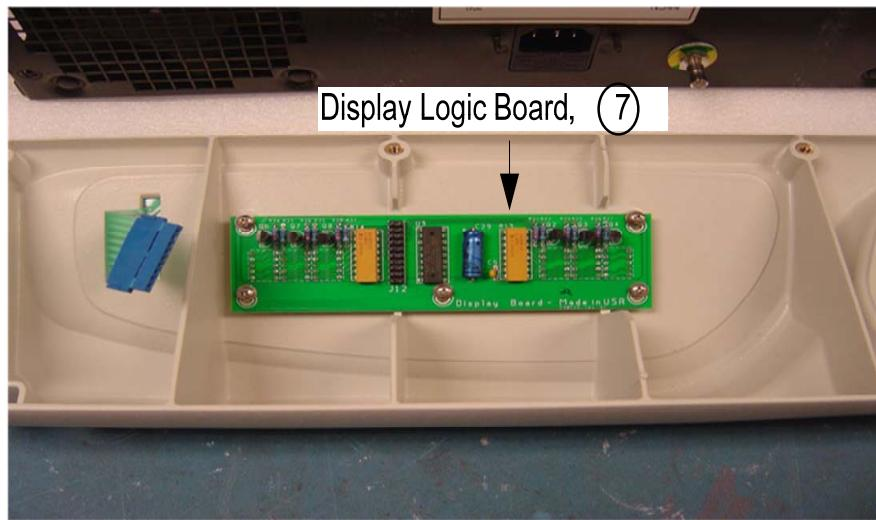

Figure 15
Remove the five 4-40 screws securing the display board to the front panel – Fig. 15.
1. Remove the four 4-40 screws securing the control board to the base – Fig. 15.